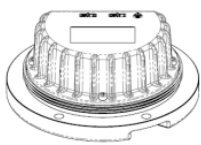
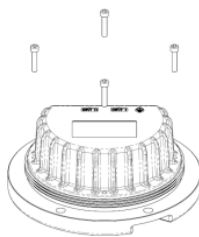

Figure 5-4
Figure 5-5
- Place the top of the lighting fixtures downwards (Figure 5-4) and dismount 4 M5×25 socket head cap screws (Figure 5-5).